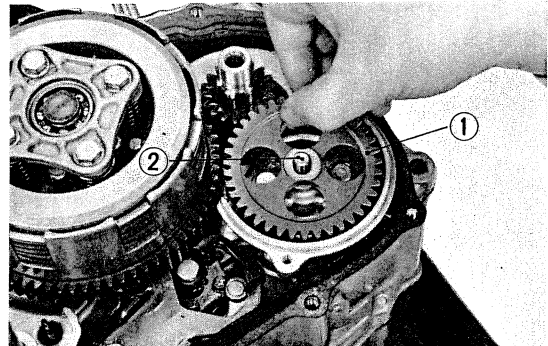

Fig. 57 Oil pump drive gear removal
- 6) Remove the oil pump drive gear. (Fig. 57)